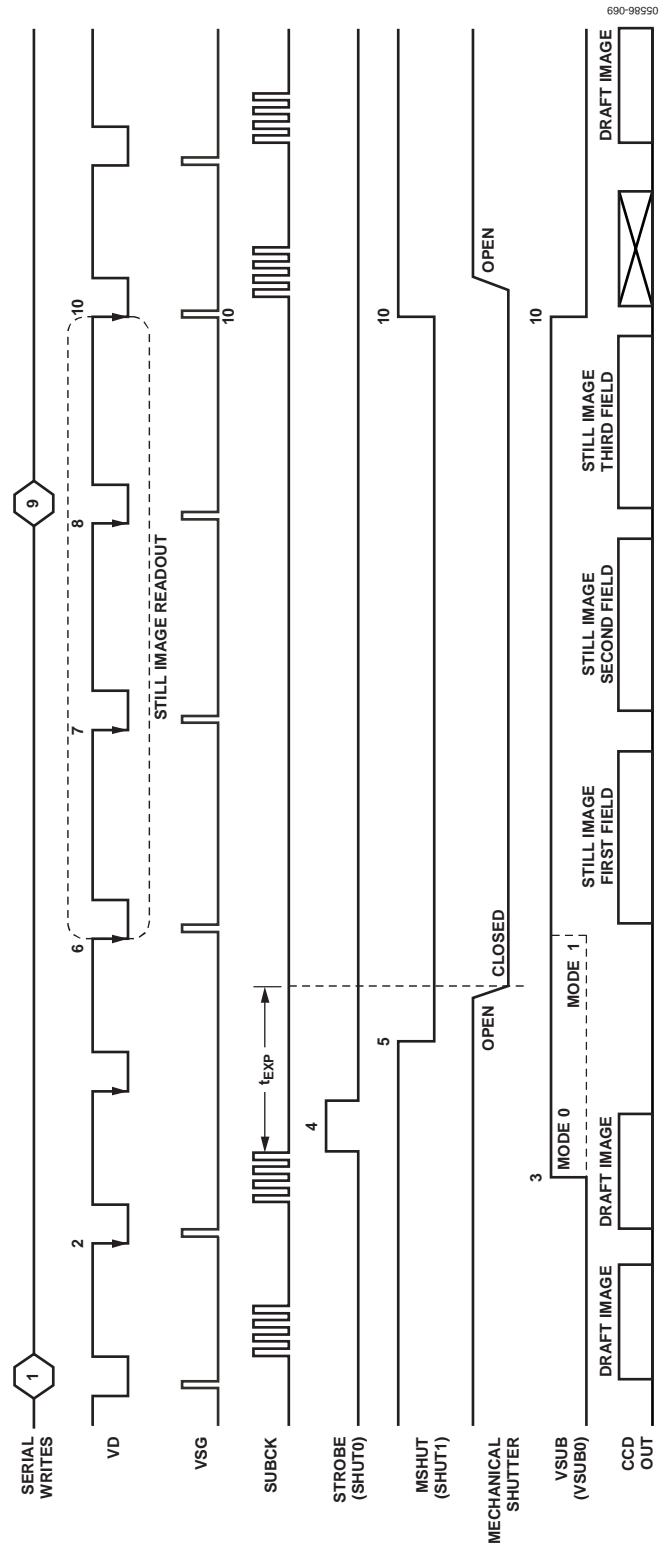

Figure 70. Example of Exposure and Still Image Readout Using Shutter Signals and Mode Register
The TRIGGER register also controls the SHUT and VSUB signals. Each signal is individually controlled, but dependent on the triggering of the exposure and readout operations. See Figure 70 for a complete example of triggering the exposure and readout operations.
SHUT signal operation is shown in Figure 68 through Figure 70. Table 39 shows the register parameters for controlling the SHUT signals. There are three different ways to use the SHUT signals: automatic trigger, single trigger, and manual control.
**Explanation of Figure 70**
The numbers in the Explanation of Figure 70 section correspond to the numbers embedded in Figure 70.
Write to the TRIGGER register (Address 0x61) to trigger the SHUT0 (STROBE), SHUT1 (MSHUT), and VSUB0 (VSUB) signals, and to start the exposure-plus-readout operation. To trigger these events (see Figure 70), set the register TRIGGER = 0xD3. Readout automatically occurs after the exposure period finishes.